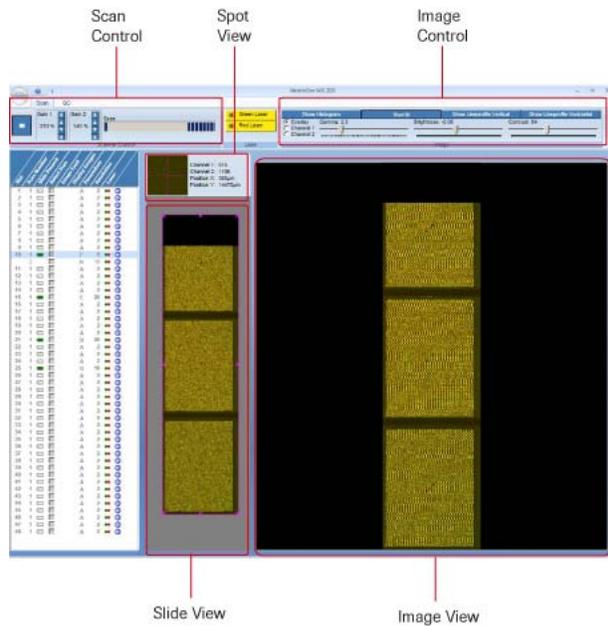
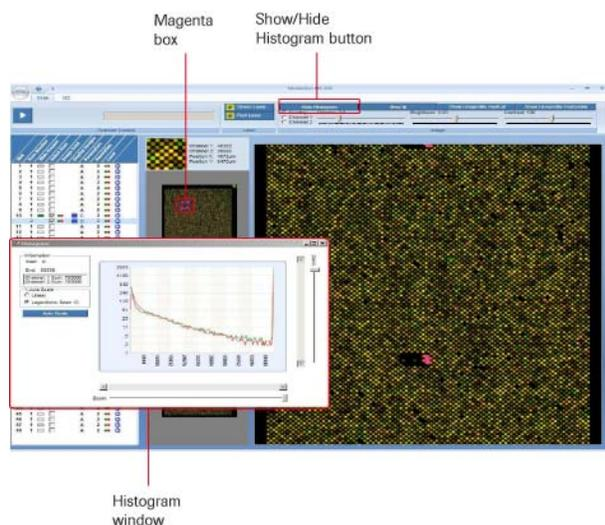

Figure 7: Example of a Run Time Window
Figure 9: Example Window Showing Magenta Box in the Side View, Show/Hide Histogram Button, and Histogram Window
12. Click the **Start/Stop Scan** button () in the Scan Control (Figure 7).
The scan process is then initiated. The Parameter Control and Area Definition Control close. The Image View, Slide View, and Spot View open (Figure 7), and the Scan Control shows the current task that is being performed above the progress bar.
- a. Use the *Gain 1* and *Gain 2* spin boxes that appear in the Scan Control (Figure 7) to adjust the gain.
- b. Click **Show Histogram** in the Image Control (Figure 7) to view the histogram. Use the zoom feature (magenta box in the Slide View, **Error! Reference source not found.**Figure 9), to select where to view the histogram.
17. To view a small region of the array and to select where to view the histogram (Figure 9), reduce the size of the magenta box that outlines the slide image in the Slide View so that the magenta box surrounds the area of interest. The area of interest will appear in the Image View. Click **Show/Hide Histogram** to display the histogram.